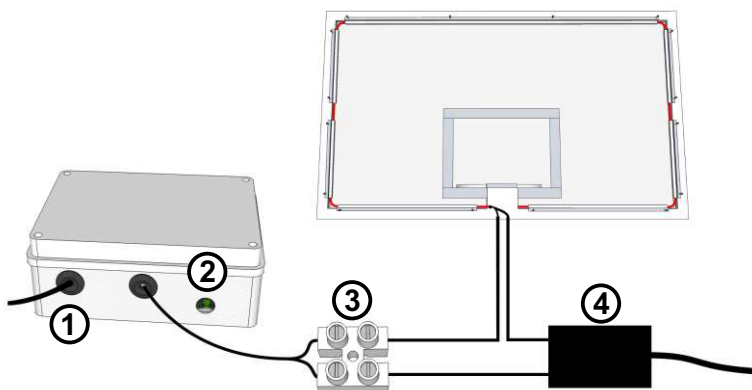

Fig.2 Diagram for connecting the Serial Data Cable
2. Connect the serial data cable that attaches to the 24-second shot clock and to the Control Unit, as outlined in Fig.2. In order to do this, disconnect the serial data cable of the 24-second shot clock, connect the RJ45 3-way coupler to the cable, and then insert the 2 cables that connect to the 24-second shot clock and the Control Unit.